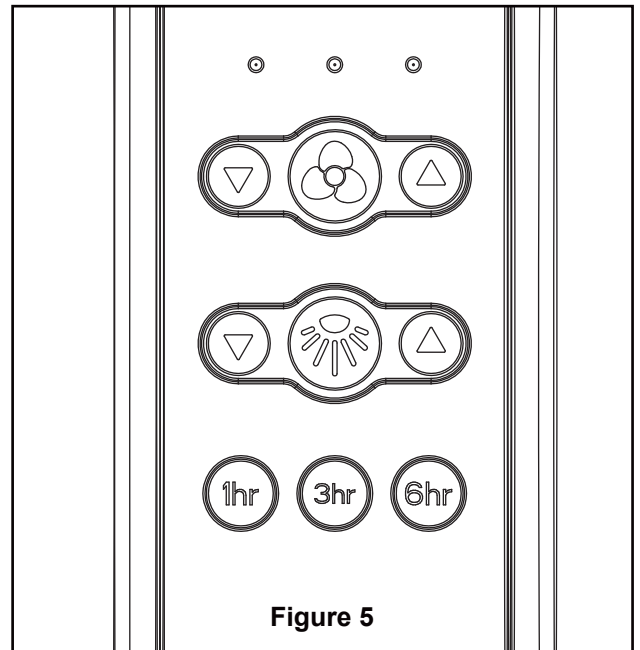

Figure 5
4. After connections have been made, the wires should be spread apart with the grounded conductor and the equipment-grounding conductor on one side of the outlet box and the ungrounded conductor on the other side of the outlet box, then turn leads upward and carefully push leads into the outlet box, with the white and green leads to one side of the box and the black leads to the other side. (Figure 5)
5. Assemble the light plate/LED assembly to the switch housing assembly using the two key slots. Replace the removed screw and secure all three screws. (Figure 5)
5. Remote functions: (Figure 5)